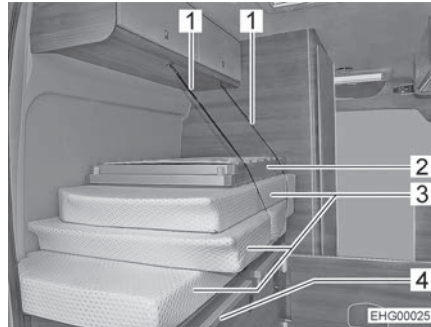
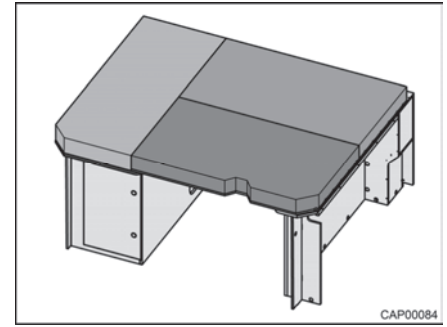

Fig. 30 Rear bed (transport position)
Fig. 31 Rear bed (converted for sleeping)
- Release retaining belts (Fig. 30,1).
- Fold bed base (Fig. 30,2) out and set down on bars (Fig. 30,4) above the central aisle.
- Distribute the cushions (Fig. 30,3) on the lying surface as shown in Fig. 31.
- Stack the cushions and the bed base on the left-hand bottom cupboard as shown in Fig. 30.
- Secure the cushions and the bed base with retaining belts (Fig. 30,1).